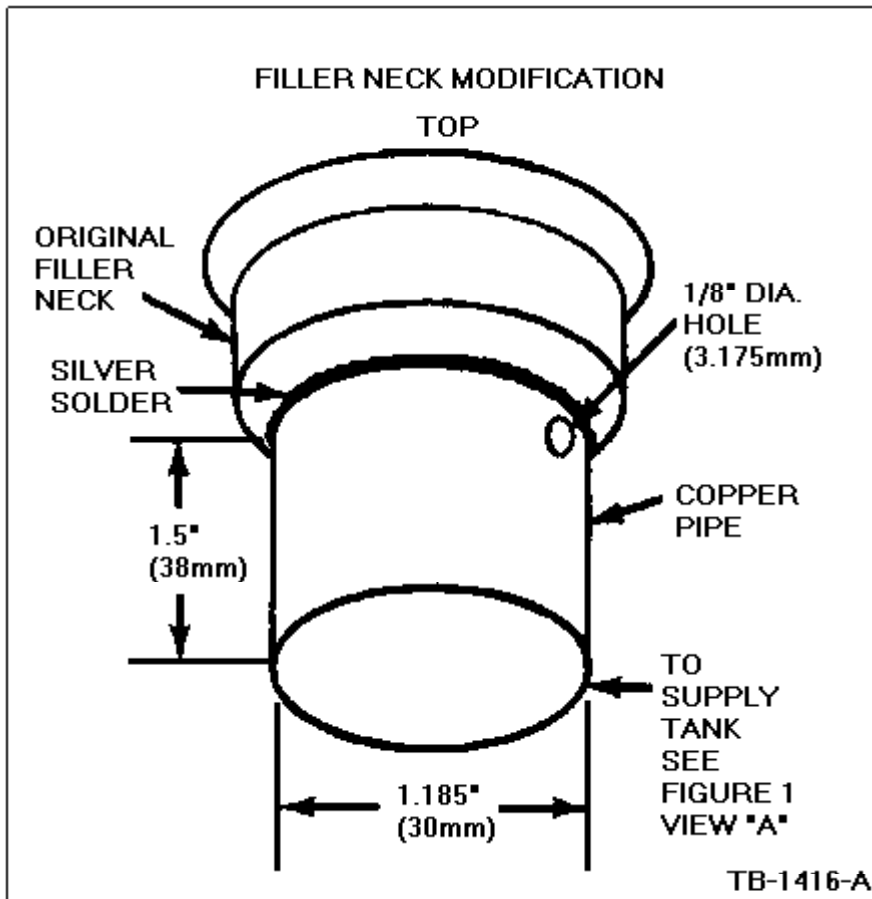

Figure 2 - Article 89-25-20
4. Butt the thin-walled pipe to the bottom of the original filler neck assembly and silver solder this joint, Figure 2.